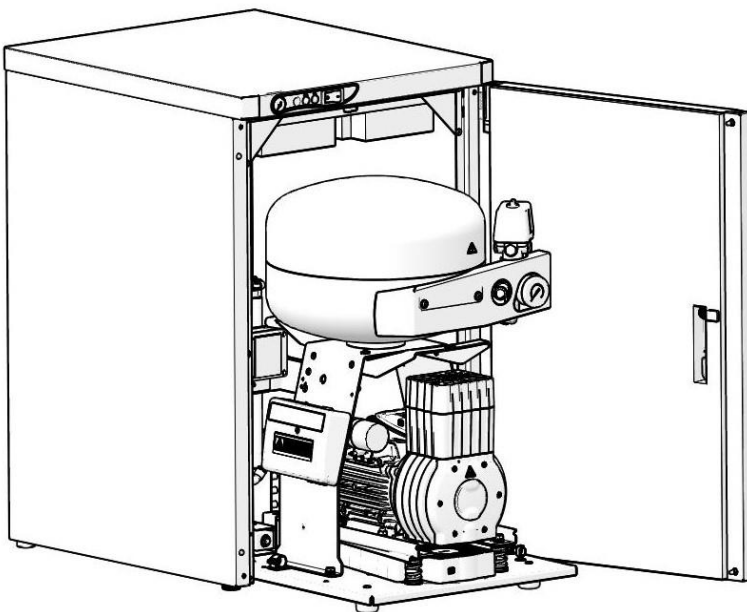

Fig. 13: Positioning the compressor for electrical connections
- Position the compressor at such a distance from the cabinet so the WINSTA connector can make the electrical connection between the compressor and the cabinet (Fig. 11, Fig. 13).